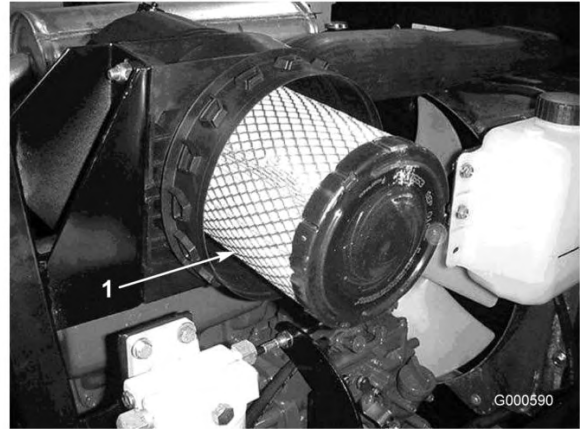

Figure 33
3. Remove and replace the primary filter (Figure 33).